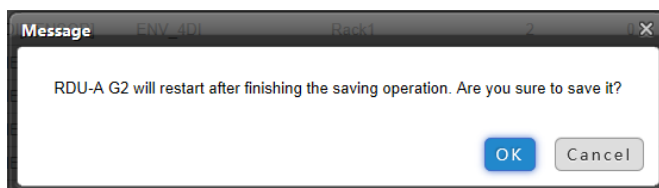

Figure 3-54 Prompt information 2
- 8) Click the **Save Configuration** button, the page shown in Figure 3-54 pops up;